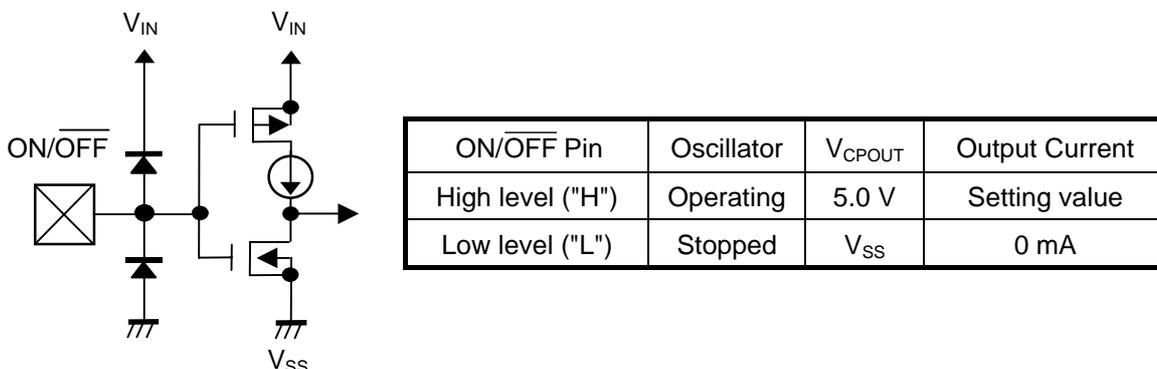

Figure 10 Equivalent Circuit of ON/OFF Pin
- The ON/ $\overline{\text{OFF}}$ pin is configured as shown in Figure 10 and is neither pulled up or down internally, so do not use this pin in a floating state.